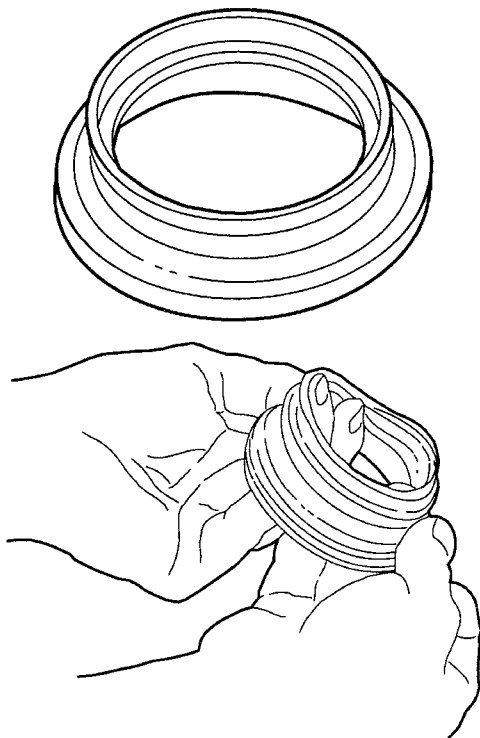

Figure 47 Inspect New Piston Boots
8. Replace piston boots during servicing of caliper. Visually inspect both inside and outside of new piston boot (Figure 47). Do not use if torn or punctured.